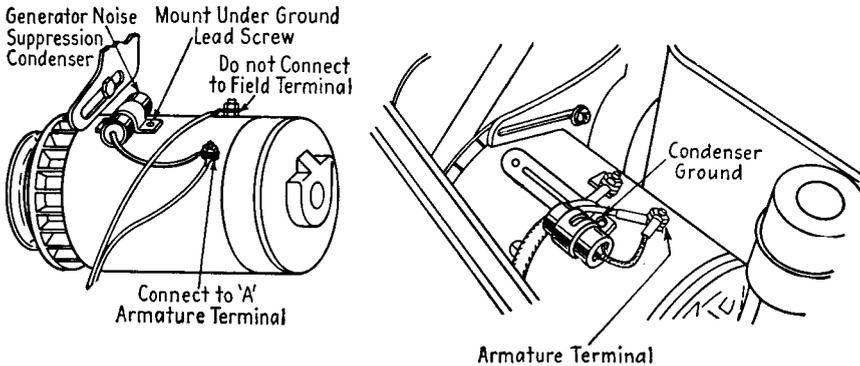

FIG. 20-9. Generator-condenser installation.
Generator interference is reduced by installing a condenser on the generator. The latter usually has two terminals: one marked *A* for the armature, and the other *F* for the field winding. The generator condenser is connected from ground to the armature terminal as shown in Fig. 20-9. The installation man should remember the usual precaution of removing paint from under the ground connection.
**Generator.** The part of the automobile electric system that charges the storage battery. It is operated by the motor, usually by means of the fan belt. A generator is shown in Fig. 20-9.